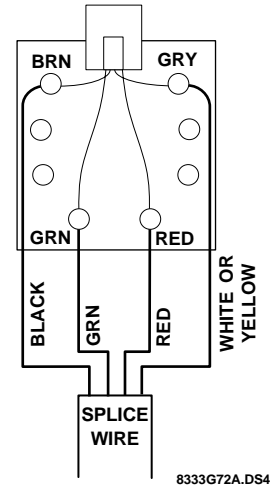

Figure 15. Wiring the RJ-31X Jack
- 3) Connect the splice-wire to the RJ-31X jack as shown in Table 1 and Figure 15.